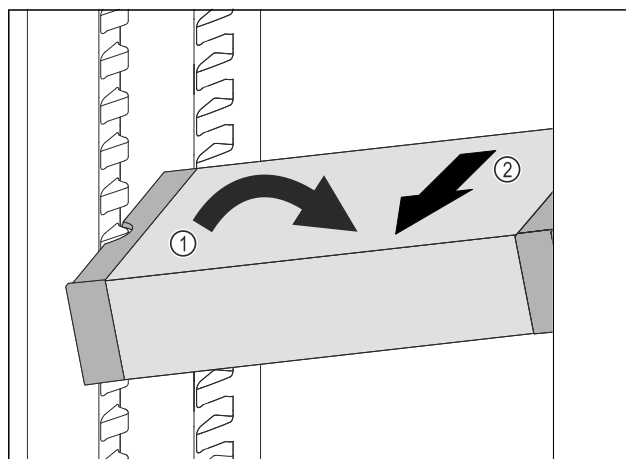

Fig. 108
- ▶ Set VarioSafe in refrigerator compartment at an angle. *Fig. 108 (1)*
- ▶ Take VarioSafe out to the front. *Fig. 108 (2)*